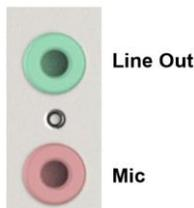

Figure 4-26: Audio Jacks
- CN Location:** See Figure 4-26